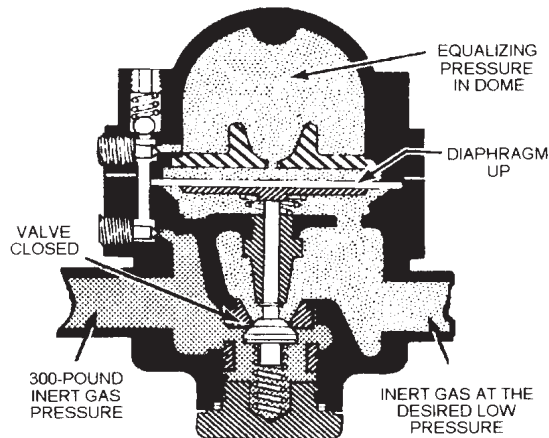

Figure 4-13.—Inert gas system balanced, valve closed.
5. The increasing gas pressure forces the diaphragm down and slowly opens the valve. Gas then flows through the valve opening into the low-pressure side of the valve and into the lower pressure chamber. There, the increasing pressure of the gas acts on the underside of the diaphragm, pushing it up to close the valve (fig. 4-13). When the low-pressure gages register the desired pressure, take the following actions: